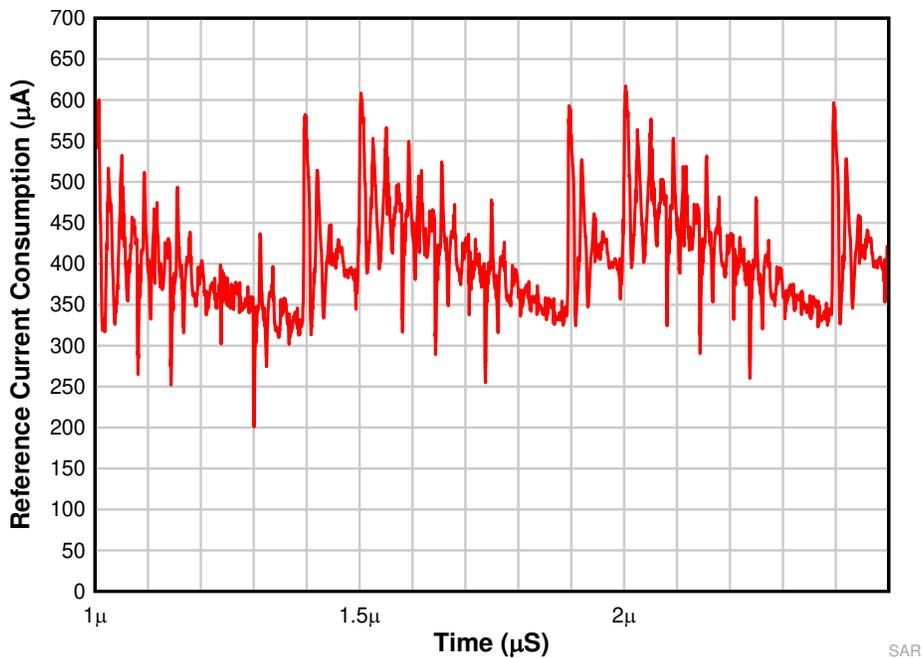

Figure 7-2. SAR ADC VREF Current Consumption
Figure 7-2 shows plot for transient current at 12 bit TI SAR AD7049 at AVDD (Reference pin) for 1V input when REF3433-Q1 is used as reference and sampling (CS) frequency is 2 MHz and 64-MHz Clock frequency. The load cap at reference pin is 10 μ F. The current is measured by measuring drop across 500 Ω placed between reference pin of ADC and REF3433Q.